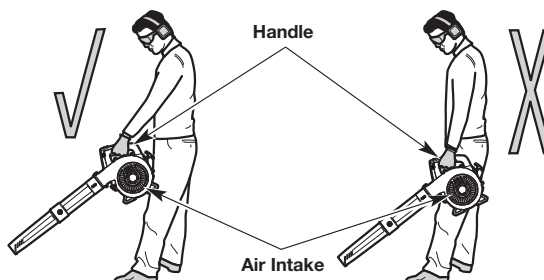

Fig. 8
- Stand in the operating position (Fig. 8). Stand up straight. Do not bend over.
- Hold the unit in front of, and away from, your body (Fig. 8).
! WARNING: To prevent serious personal injury or damage to the unit, **DO NOT** hold the unit at your side (Fig. 8). The engine may be extremely hot. **DO NOT** block the air intake.